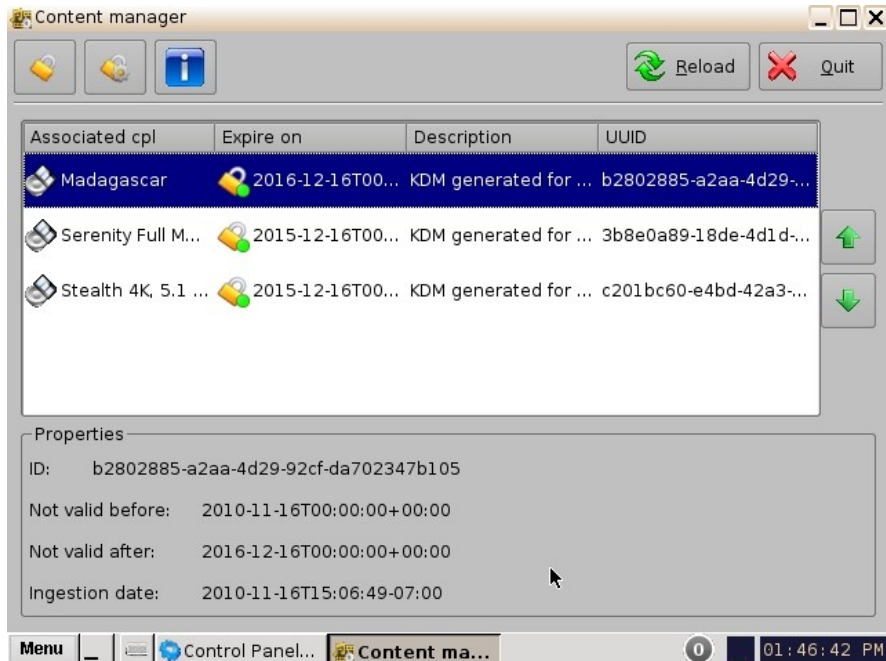

Figure 78: Decryption Keys Tab
- The Decryption Keys page displays the list of all encrypted CPLs on the unit and the corresponding KDMs with a description of the following information (Figure 78):